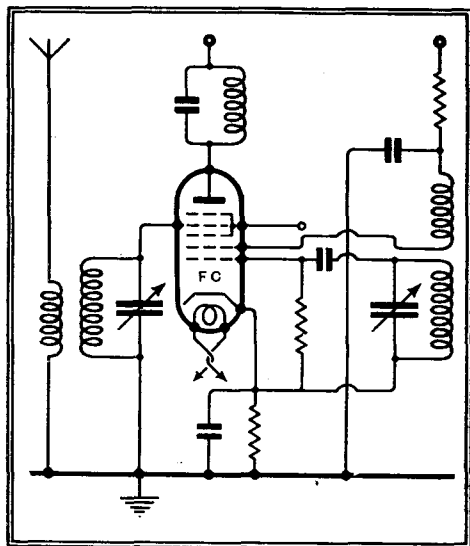

Fig. 1.—Typical short-wave frequency changer with a tuned input circuit in which plug-in coils might be used.
**N**O doubt many readers have in use a heptode frequency changer in either their S-W receiver or in their converter, which is probably wired up in either of the conventional manners shown in Figs. 1 and 2.